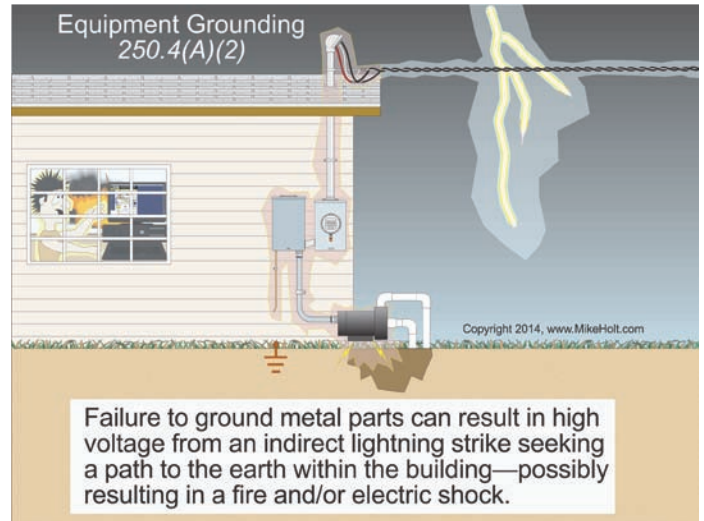

Figure 250-7
**⚠ DANGER:** Failure to ground metal parts to earth can result in induced voltage on metal parts from an indirect lightning strike to seek a path to the earth within the building—possibly resulting in a fire and/or electric shock from a side-flash. Figure 250-7